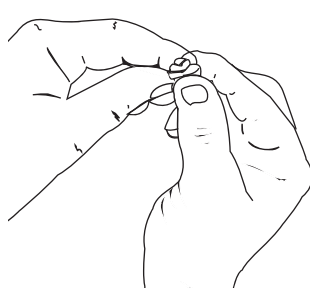

Fig. 26
5. Squeeze the filter to spread and remove excess oil (Fig. 26).